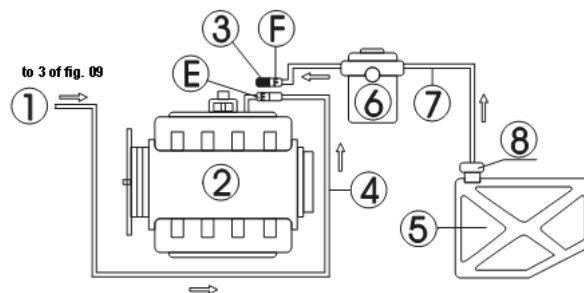

Fig.10
The hose line connection of the engine without return hose is shown as in Fig.10.
- 1) Disconnect the fuel supply hoses (E, F) of engine fuel system (wrap the connector when disconnecting the connector), and then choose a proper connector and connect it to the E end. Reconnect the fuel outlet hose of the unit well and make the fuel return hose hanging. See Fig.10.
- 2) Stop the other end of the disconnected end (F) with a proper stopper, (use when the fuel pump has the fuel return function only) or remove the fuse of fuel pump or disconnect the power cable of fuel pump.